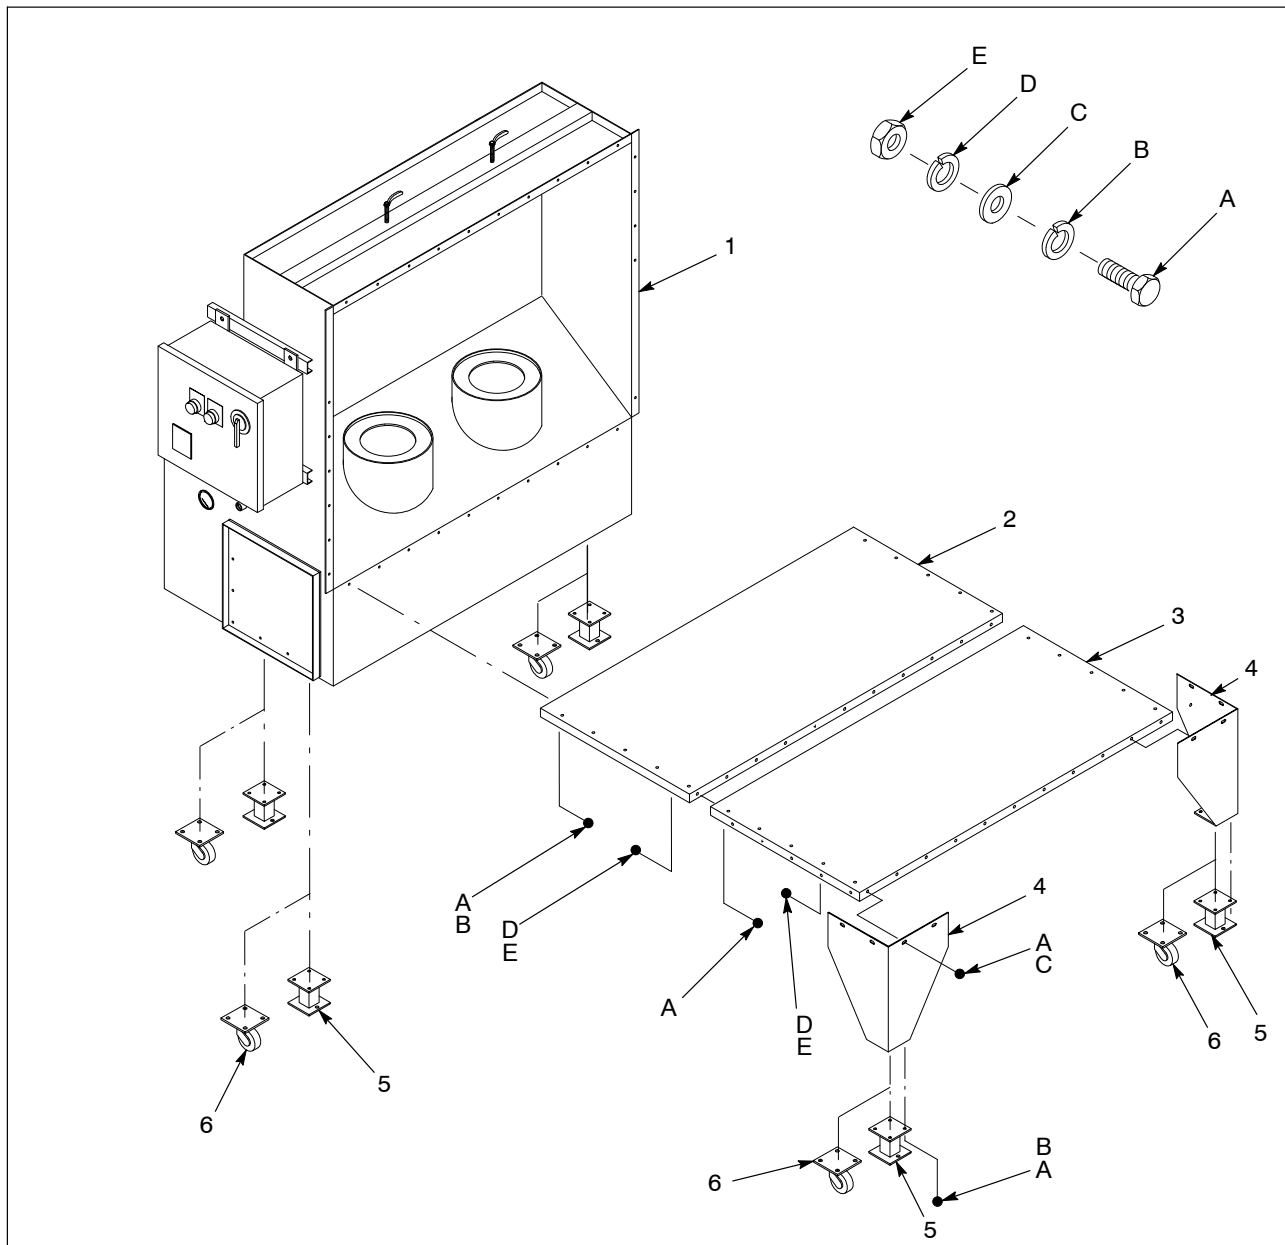

Figure 3-1 Floor Assembly
3. See Figure 3-1. Locate the 3 extension legs (5) or casters (6) and 12  $\frac{3}{8}$ -16 x 1 in. hex bolts (A) and lock washers (B, D).
4. Cut the metal bands holding the collector module (1) to the pallet. Secure the extension legs or casters to the bottom of the collector module as shown in Figure 3-1.
- b. See Figure 3-1.  $\frac{3}{8}$ -16 steel hex bolts (A), nuts (E), flat washers (C), and lock washers (B, D) to join steel panels and to secure enclosure legs to floor panels.
- c.  $\frac{3}{8}$ -16 steel hex bolts (A) and lock washers (B) to secure the extension legs or casters to the enclosure legs.
1. See Figure 3-1. Use the fasteners shown to bolt the leg extensions (5) or casters (6) to the legs (4).
2. Bolt the floor panel (2) to the floor panel (3).
3. Bolt the legs (4) to the floor panel (3).
4. Bolt the floor panel (2) to the collector module (1).